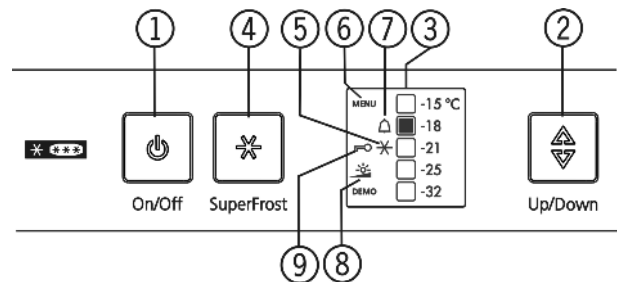

Fig. 3
- The SuperFrost symbol *Fig. 3 (5)* flashes together with the temperature display.